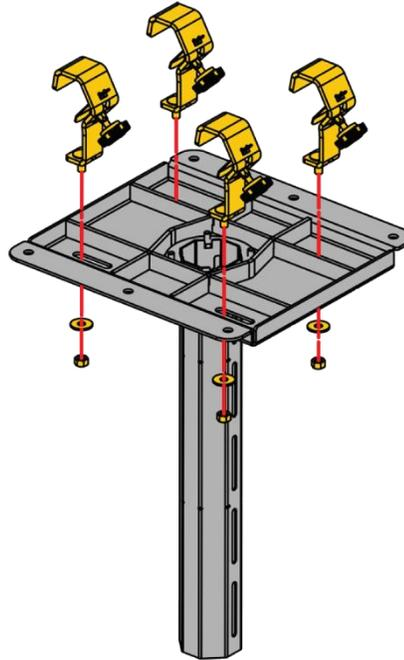

Figure 75:
1. [Optional] For fastening the VM-1140 to a truss, use the truss clamp kit hook-140 ⑭. First, fasten the truss clamps to the ceiling plate ① without tightening the nuts, as shown in **Figure 75**.